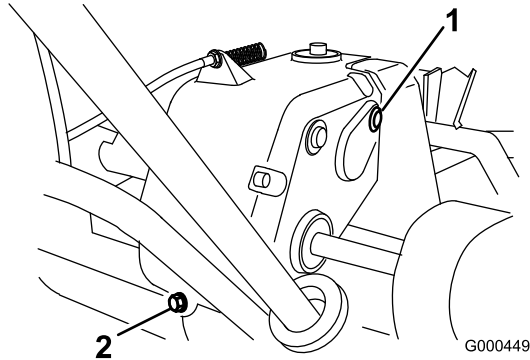

Figure 31
2. Remove the drain plug from the rear of the transmission (Figure 31).
3. Push down on the handle and tip the machine back. Remove the check/fill plug from the right-hand side of the transmission (Figure 31).